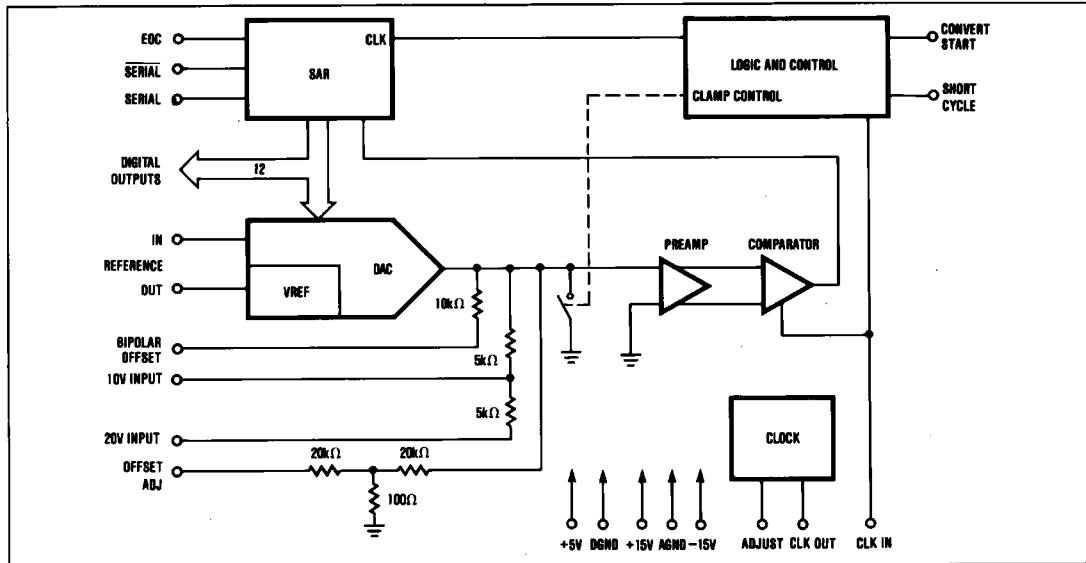

Figure 1. Maxim MX578 Block Diagram.
The MX578 is a 12-bit successive approximation A/D converter in which the analog input is compared to the output of a high speed D/A converter (Figure 1). The D/A is binary stepped until its output matches the analog input. The digital code from the successive approximation register (SAR) appears on the outputs as the binary value of the input voltage. The conversion process consists of twelve successive tests, starting with the D/A set to half Full Scale (FS). The comparator determines whether the D/A output is higher or lower than the analog input and either sets or resets Bit 1 (MSB). On the next test, the D/A is incremented up or down $\frac{1}{4}$ FS, based on the last decision, and is again compared to the input. The result is stored as BIT 2. Each comparator decision is clocked into the SAR for the remaining bits until all twelve have been tested.
The analog input should be driven by a wide bandwidth, low output impedance op amp or a fast sample-and-hold. Although V_{IN} may not change during the conversion, the load current of the A/D abruptly changes with each clock cycle due to successive DAC codes (Figure 1). The amplifier must recover to the original value in time for the rest of the circuit to settle before the comparator can make a decision. An op amp which can settle to 0.01% in 50 to 100ns for a 0.5mA change in load current with no thermal tail and low offset voltage drift is recommended.